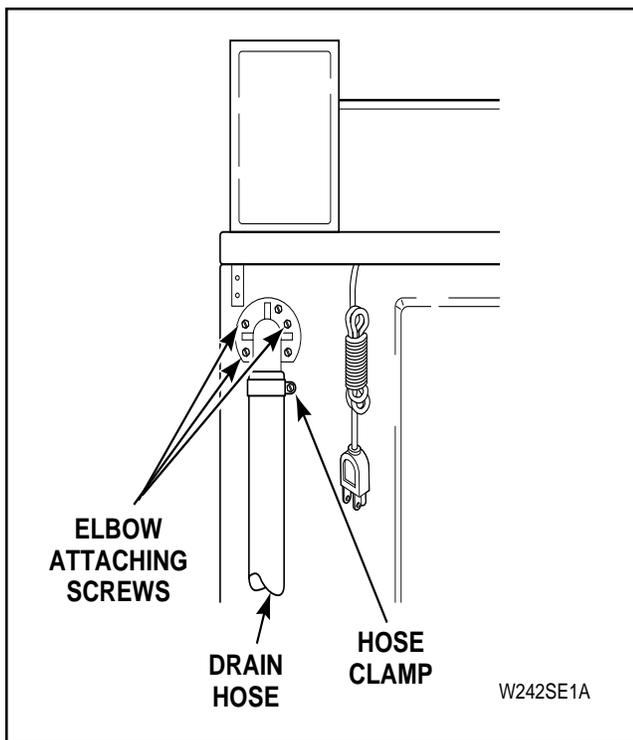

Figure 13
- Loosen hose clamp and remove drain hose from elbow, *Figure 13*.
- Remove screws holding elbow to rear of washer cabinet, *Figure 13*.